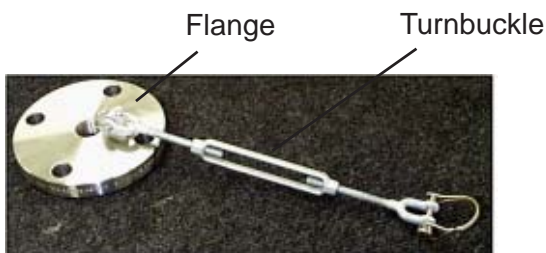

Figure 14
2. Align flange holes with turnbuckle anchor at bottom. Install four appropriate sized bolts and hand tighten all four bolts evenly. Tighten with wrench (see Figure 14).